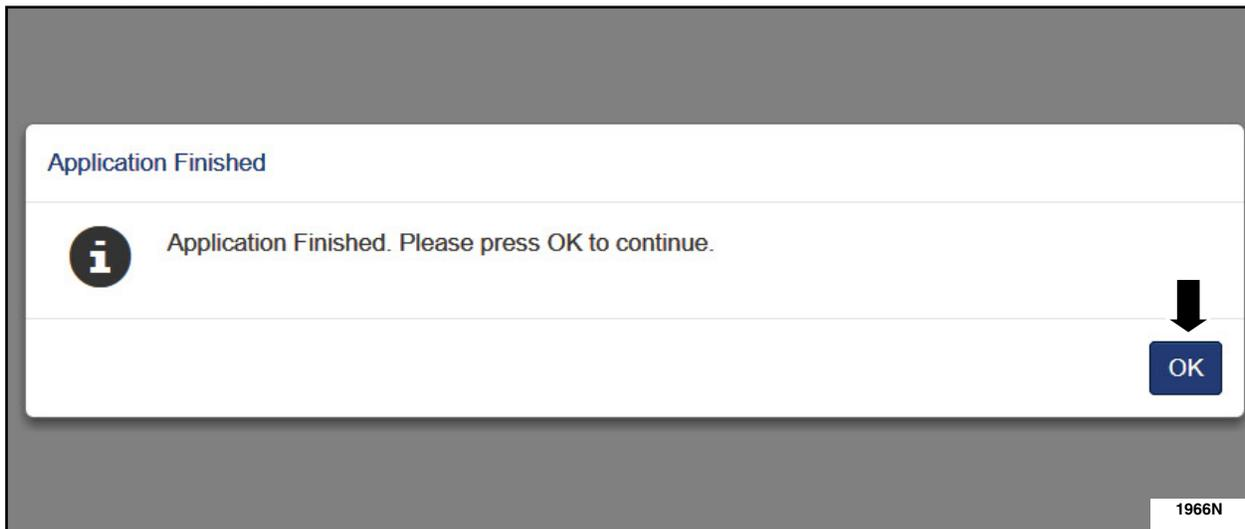

FIGURE 13
15. Once you see "Application Finished" press "Ok". See Figure 13.